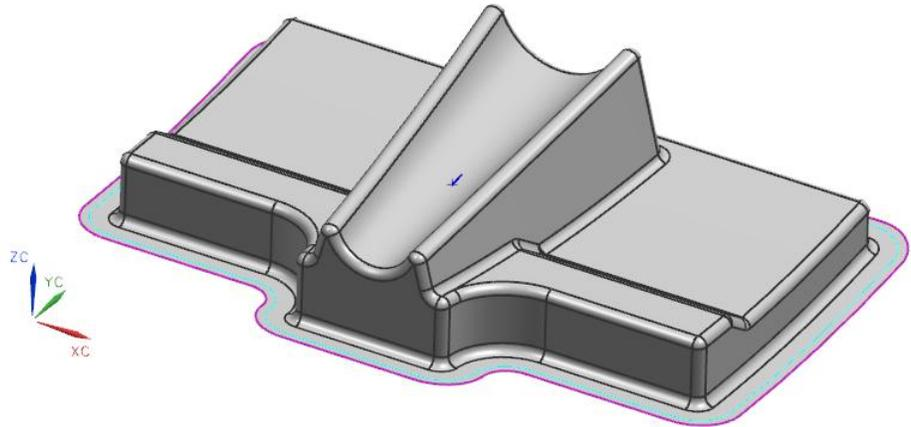

Figure 1–2
1. Open **PROJECT1_PRODUCIBILITY.prt**. The model displays as shown in Figure 1–2.